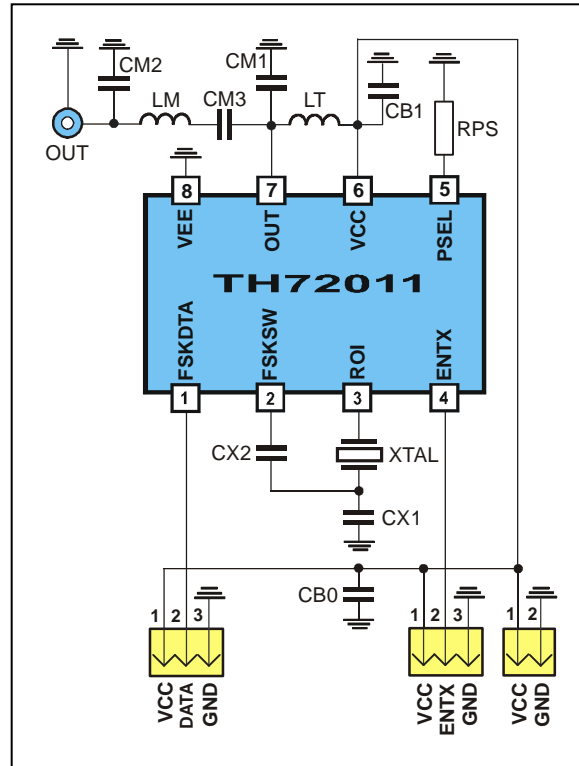

Fig. 18: Test circuit for FSK with 50 Ω matching network
typical values at $T_A = 23\text{ °C}$ and $V_{CC} = 3\text{ V}$; test circuit shown in Fig. 18, $f_c = 433.92\text{ MHz}$
- Data according to test circuit in Fig. 18
6.1 Test circuit component list to Fig. 18